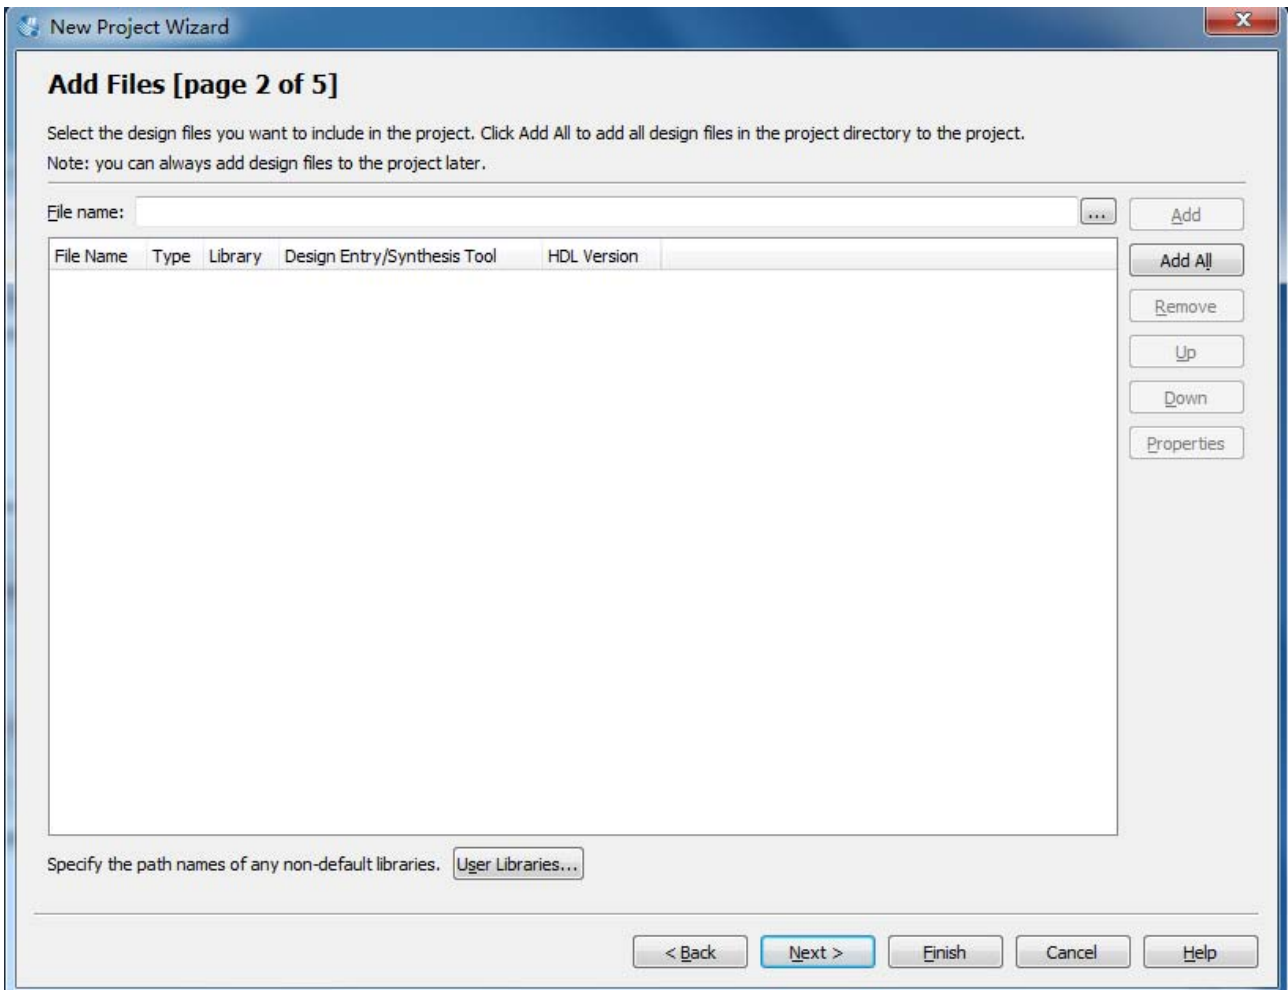

**Figure 1-2 New Project Wizard**
1. Launch Quartus II then select File->New Project Wizard, start to create a new project. See **Figure 1-1** and **Figure 1-2**.